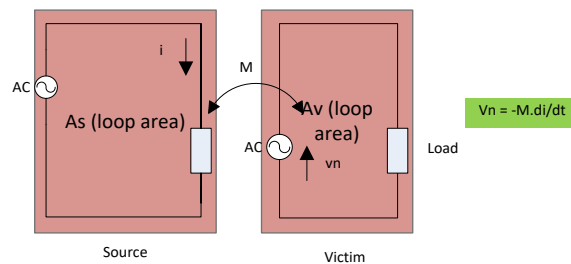

Fig 2
- **To minimise M, the mutual inductance, reduce the loop areas of both the source (As) and victim (Av)-see figure 2.**